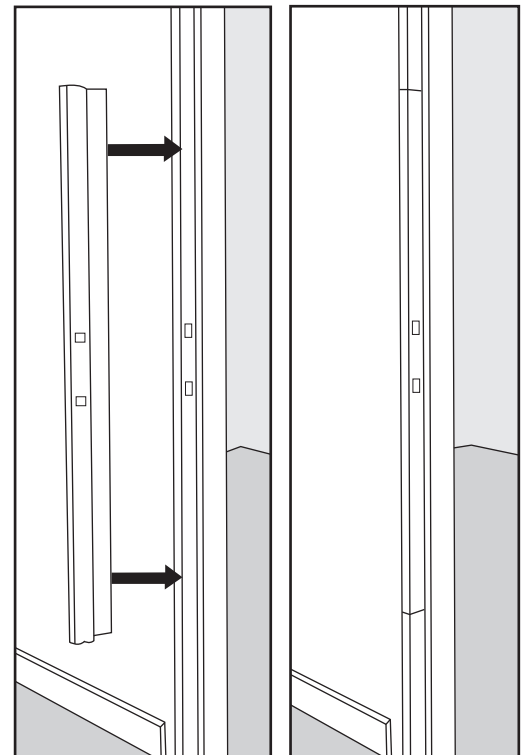

FIG. JS-03
- When positioning the Jamb Shield care should be taken to ensure that the holes line up with the lock bolt holes in the door jamb (FIG. JS-03). On the inside of the door jamb, the short leg of the Jamb Shield should fit securely against the finished frame and behind the weather stripping. When placed properly the edge of the short leg should be hidden by the weather stripping.